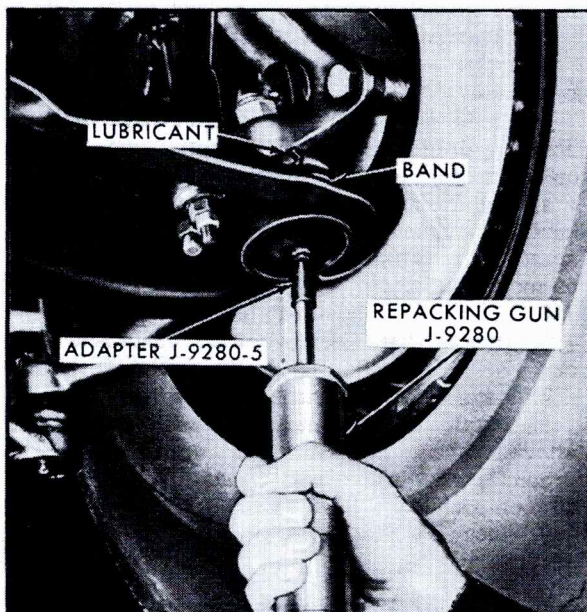

Fig. 3-14 Repacking Front Lower Spherical Joint Seal
3. Using Repacking Gun, J-9280, and adapter J-9280-5, apply lubricant until grease is forced out between upper end of seal and knuckle, Fig. 3-14. Any water trapped in the joint should be forced out by the fresh lubricant.
13. Using Repacking Gun, J-9280, and Adapter J-2980-5, Fig. 3-14, repack joint through plug hole with lubricant. Force lubricant into joint until enough comes through to flush out any moisture and foreign material. Usually one or two ounces will be needed. Wipe off surplus.